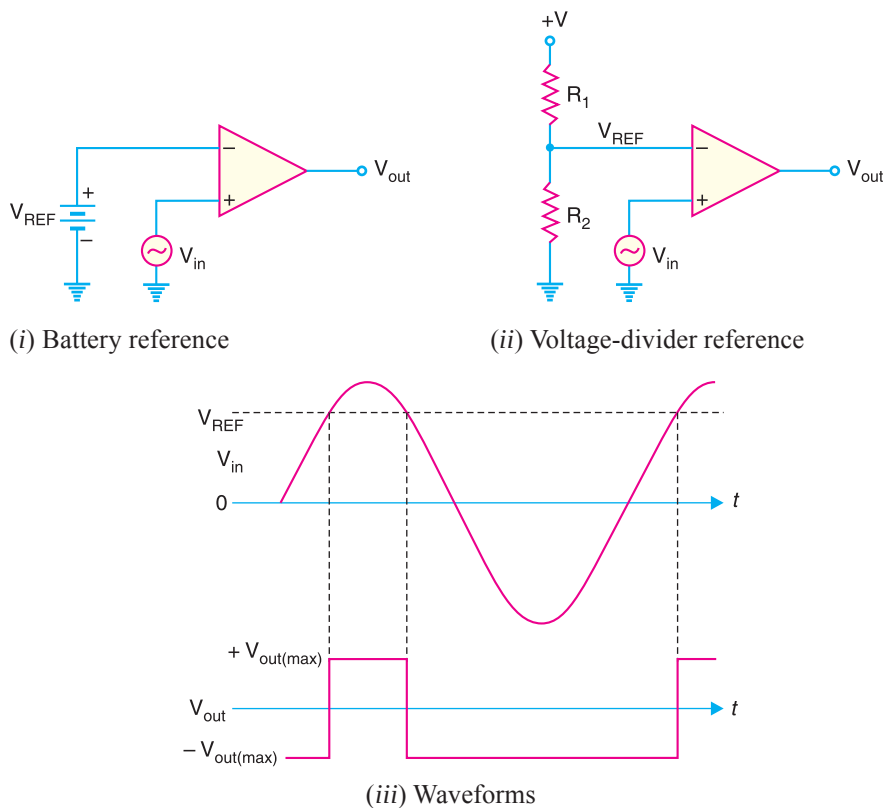

Fig. 25.96
3. As a level detector. When a comparator is used to compare a signal amplitude to a fixed d.c. level (reference voltage), the circuit is referred to as a level detector. We can modify zero-crossing detector circuit to construct level detector. This can be done by connecting a fixed reference voltage V_{REF} to the inverting input as shown in Fig. 25.96 (i). A more practical arrangement is shown in Fig. 25.96 (ii) using a voltage divider to set the reference voltage as follows :
The circuit action is as follows. Suppose the input signal v_{in} is a sine wave. When the input voltage is less than the reference voltage (i.e. $V_{in} < V_{REF}$), the output goes to maximum negative level. It remains here until V_{in} increases above V_{REF} . When the input voltage exceeds the reference voltage (i.e. $V_{in} > V_{REF}$), the output goes to its maximum positive state. It remains here until V_{in} decreases below V_{REF} . Fig. 25.96 (iii) shows the input/output waveforms. Note that this circuit is used for non zero-level detection.